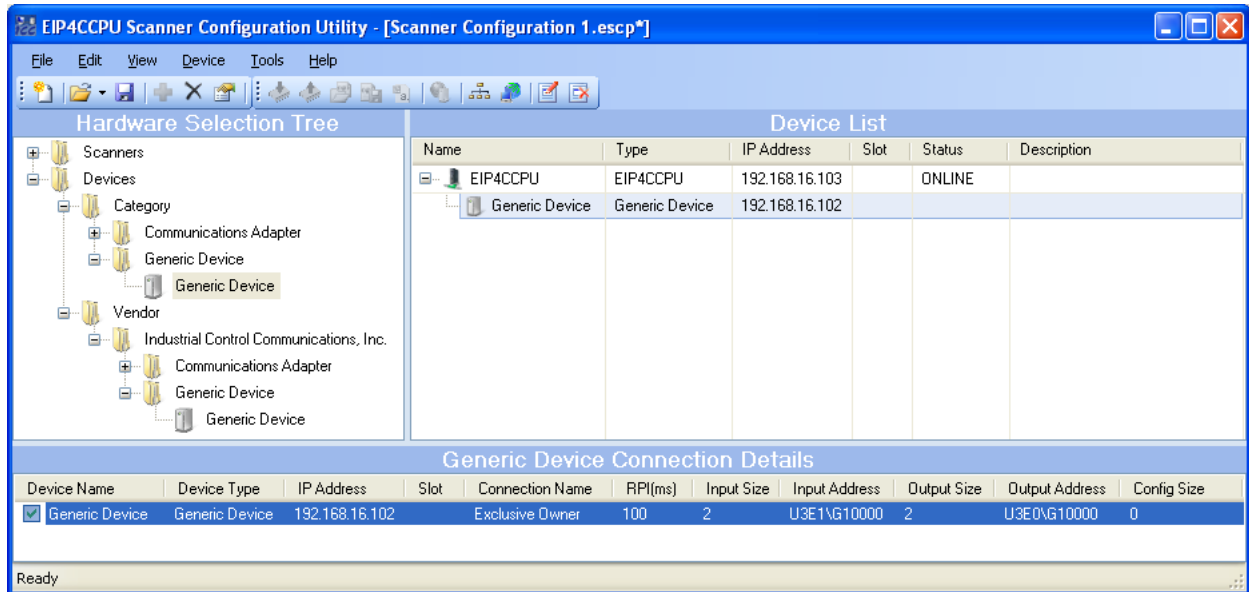

Figure 48: Added a Generic Device Connection
- Click Accept. A Generic Device connection has been successfully added (see Figure 48).